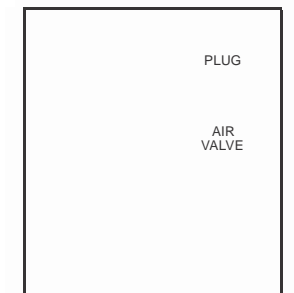

Figure 1
3. Remove air valve core (Fig. 1) to bleed remaining air charge.